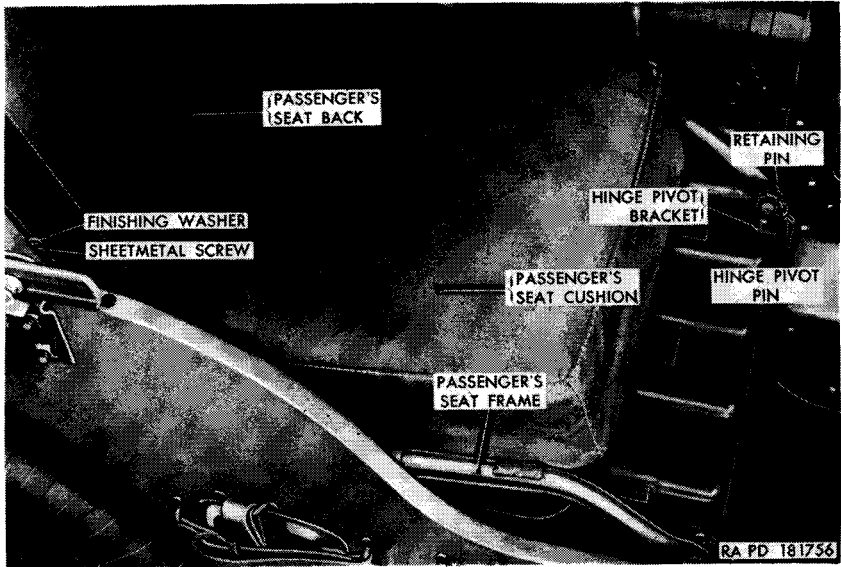
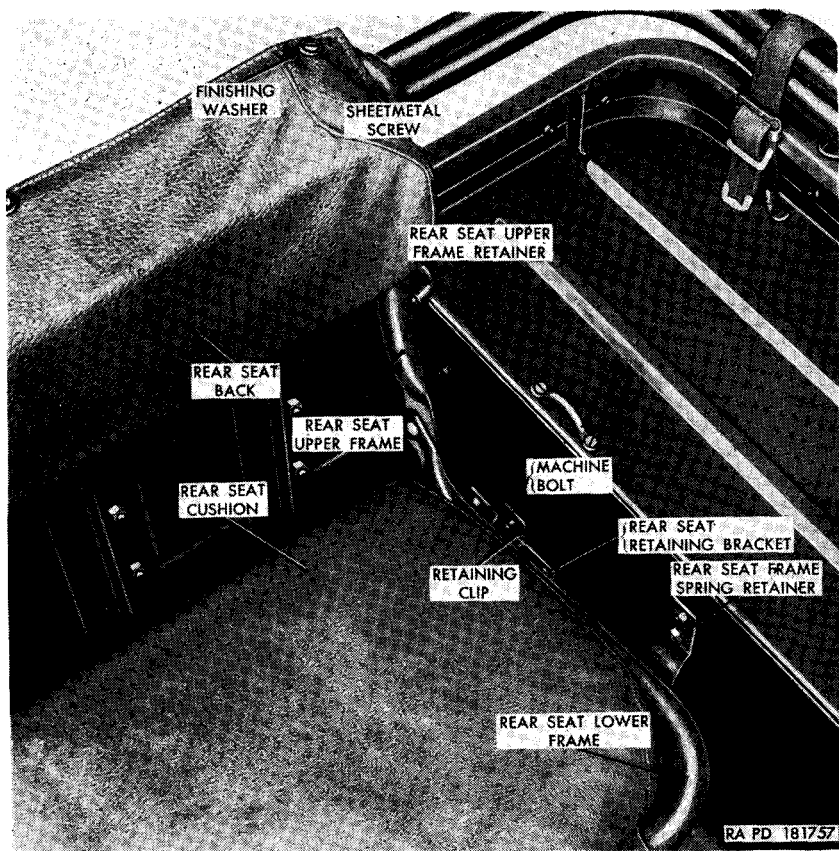

Figure 134. Passenger's seat.
Figure 135. Rear seat disconnect points.
- (2) *Installation.* Position the driver's seat over the fuel tank, aligning the mounting holes in the seat frame with the mounting holes in the floor pans and wheel panel. Secure the seat in position with two $\frac{5}{16} \times \frac{5}{8}$ lockwasher screws at the front floor pan, and two $\frac{5}{16} \times \frac{7}{8}$ lockwasher screws at the rear floor pan and wheel panel.
b. Passenger's Seat (fig. 134).
- (1) *Removal.* Remove the two retaining pins from the hinge pivot pins welded to the seat frame. Pry the pivot pins out of the hinge pivot brackets and remove seat from vehicle.
- (2) *Installation.* Position the two hinge pivot pins, welded to the seat frame, in the hinge pivot brackets. Secure the pivot pin by inserting retaining pins through the ends of the pivot pins.
c. Rear Seat (fig. 135).
- (1) *Removal.* Remove the four plain nuts, lockwashers, and bolts holding the retaining clips in position at each side of vehicle and remove clips from seat retaining brackets. Lift the seat straight up and out of vehicle.
- (2) *Installation.* Position the seat in vehicle so that seat upper frame is inside the two seat upper frame retainers and the seat lower frame is in the rear seat retaining brackets. Position the retaining clips in the retaining
e. Passenger's Seat Cushion (fig. 134).
- (1) *Removal.* Tilt the seat forward and remove the two lockwasher screws securing the seat cushion to the seat frame. Pull out on seat cushion to disengage clips at rear of cushion from seat frame and remove cushion from frame. Remove the 12 sheet metal screws and finishing washers securing the seat back to the seat frame and lift the back off the frame.
- (2) *Installation.* Position the seat cushion in the seat frame and push cushion back into frame to engage the clip on the cushion with the frame. Secure the cushion to the frame with two $\frac{5}{16}$ x $\frac{5}{8}$ lockwasher screws. Position the seat back on the seat frame and secure in position with 12 No. 10 x $\frac{1}{2}$ sheet metal screws and No. 10 finishing washers.
f. Rear Seat Cushion (fig. 135).
- (1) *Removal.* Remove the 10 sheet metal screws and finishing washers securing the seat cushion to the seat lower frame and lift the seat cushion out of the seat frame. Remove the 10 sheet metal screws securing the seat back to the seat upper frame and lift seat back off frame.
- (2) *Installation.* Position the seat cushion on the seat lower frame and secure in position with 10 No. 10 x $\frac{1}{2}$ sheet metal screws and No. 10 finishing washers. Position the seat back on the seat upper frame and secure in position with 10 No. 10 x $\frac{1}{2}$ sheet metal screws and No. 10 finishing washers.